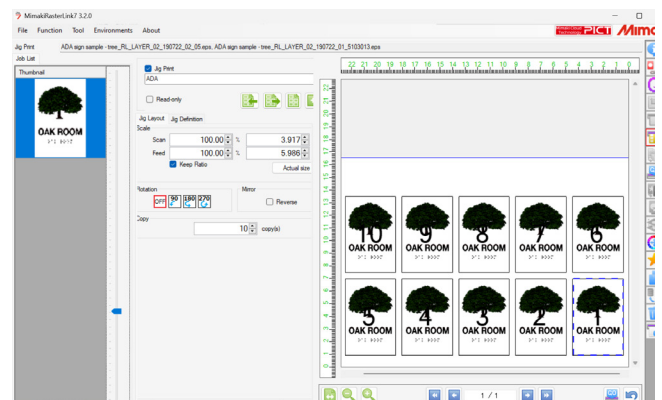

fig. 10
- » Step & repeat your prints in **Layout** or **Jig Print** tabs. (*Alt+G*) *fig.10*